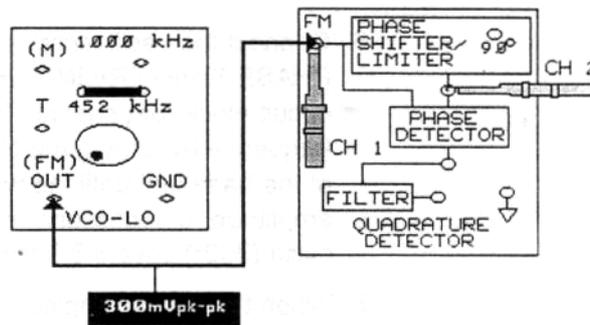

Figure 6-26.
1. On the VCO-LO circuit block, insert the two-post connector in the 452 kHz terminals, and **DISCONNECT** the FUNCTION GENERATOR from the message (M) input if it is already connected (see Figure 6-26).